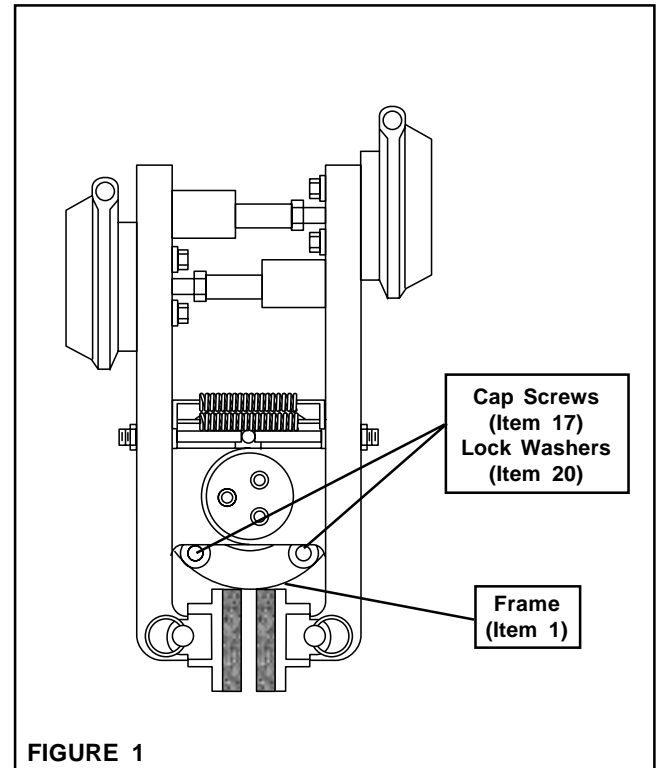

FIGURE 1
5. Tighten the Cap Screws (Item 17) and the Lock Washers (Item 20) to 50 Ft. Lbs. [67.8 N•m] torque (See Figure 1).